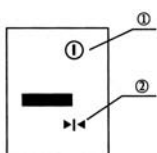

Figure 6
- When the detector displays like Fig 6, it is at the right position.